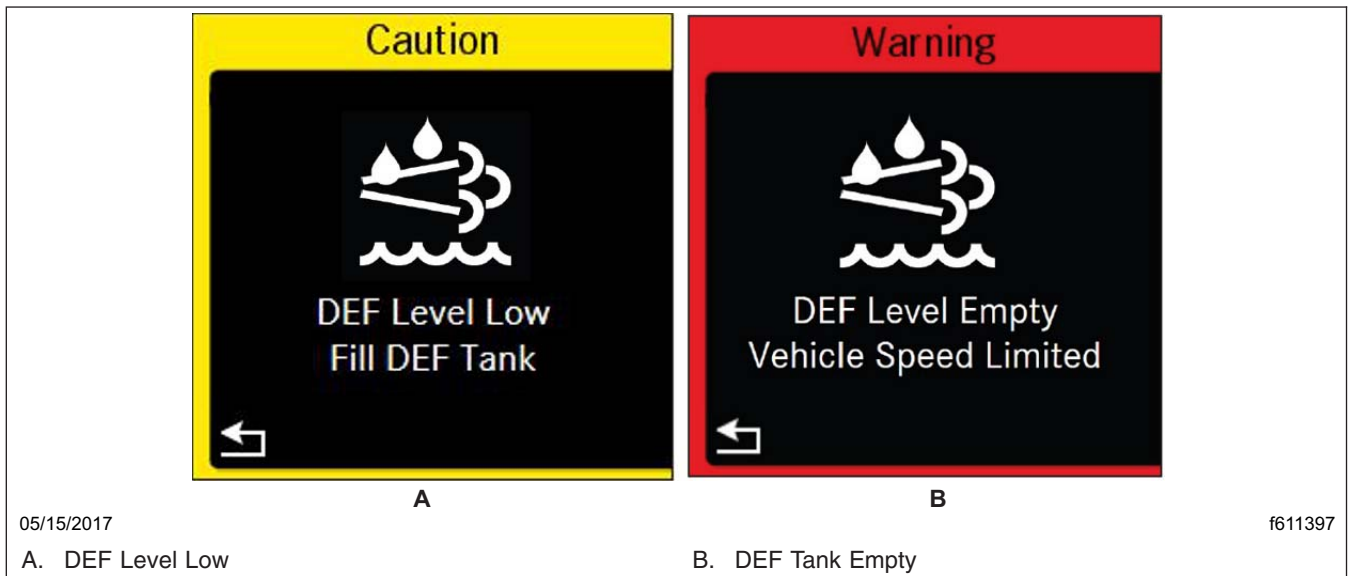

Fig. 13.8, DEF Level Messages
When the DEF level is low, the DEF warning lamp illuminates solid amber, and the driver display screen presents an alert. See Fig. 13.8. Refill the DEF tank in order to cancel the warning sequence.
- The driver display screen presents the warning, 'DEF Tank Empty.' See Fig. 13.8.